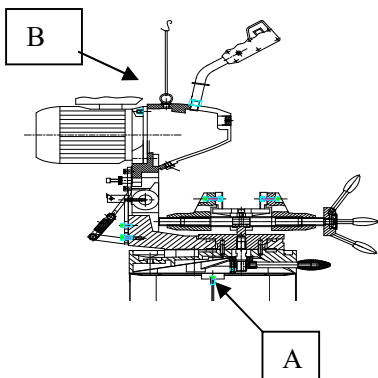

FIG3.03
2. The bolt (A in fig3.03) of basic must be fitted before transport and store.